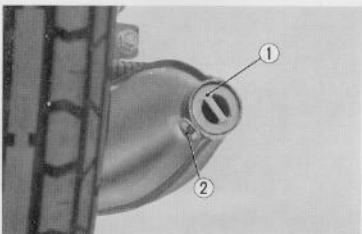

Fig. 4.65 Removing diffuser pipe
3. The diffuser pipe can be removed by unscrewing the 6×8 hex bolt, however, the diffuser pipe is not removable on the USA export models. (Fig. 4.65)